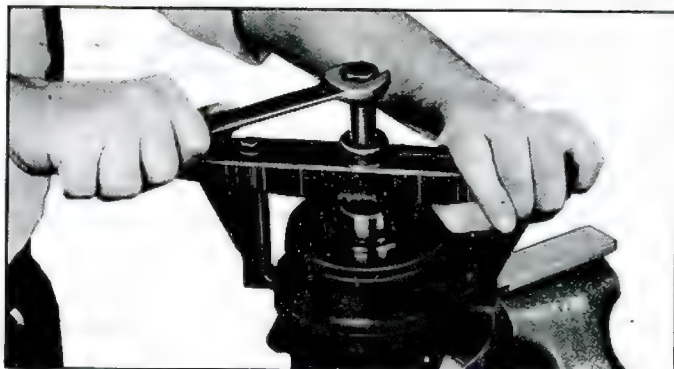

Fig. 36—Removing Pulley
4. Place Puller Pilot J-9395 over the compressor shaft and pull off the pulley assembly using J-8433 pulley puller (fig. 36).